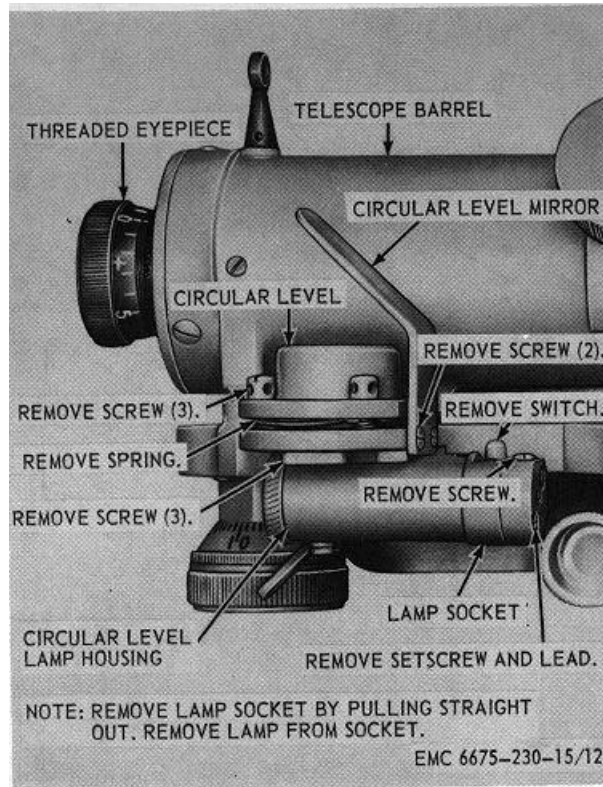

Figure 12. Threaded eyepiece, circular level, and mirror, removal and installation.
- (1) Refer to figure 12 and remove the circular level lamp housing and switch.
- (2) Refer to figure 12 and install the circular level lamp housing.
- a. *Removal.* Refer to figure 12 and remove the threaded eyepiece.
- (1) Clean the eyepiece with lens cleaner and tissue, using a circular motion.
- (2) Inspect for proper operation and chipped or cracked lenses. Replace a defective eyepiece.
*c. Installation.* Refer to figure 12 and install the threaded eyepiece.
*a. Removal.* Refer to figure 12 and remove the circular level mirror.
- (1) Clean the mirror with an approved cleaning solvent and dry, using a circular motion.
- (2) Inspect the mirror for scratches, cracks, and breaks. Replace a defective mirror as necessary.
- (3) Inspect mounting hardware for damage. Replace damaged parts as required.
*c. Installation.* Refer to figure 12 and install the circular level mirror.
*a. Removal.* Refer to figure 12 and remove the circular level and spring.
- (1) Wipe the level with a lint-free cloth moistened in an approved cleaning solvent and .dry.
- (2) Inspect the level for cracked and chipped lens. Replace a defective level as required.
*c. Installation.* Refer to figure 12 and install the circular level and spring.
- (1) Refer to figure 12 and remove the threaded eyepiece.